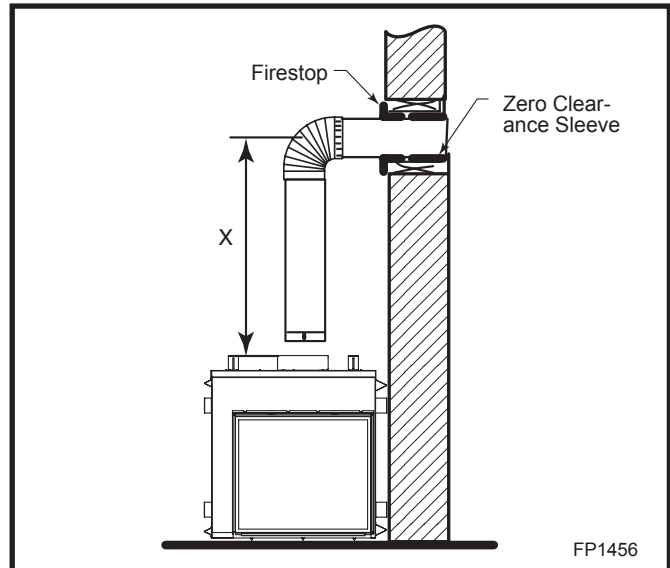

Fig. 21 Vertical height requirement.
Place fireplace into position. (Fig. 21) Measure the vertical height (X) required from the base of the flue collars to the center of the wall opening. **NOTE:** If using the SK8DVSK Kit, the vertical section of pipe is telescopic and could provide adjustment from 24” up to 40” (610 mm to 1016 mm).
Place fireplace into position. (Fig. 21) Measure the vertical height (X) required from the base of the flue collars to the center of the wall opening. **NOTE:** If using the SK8DVSK Kit, the vertical section of pipe is telescopic and could provide adjustment from 24" up to 40" (610mm to 1016mm). Through the wall section shipped with the starter kit will not be used when going through the wall.